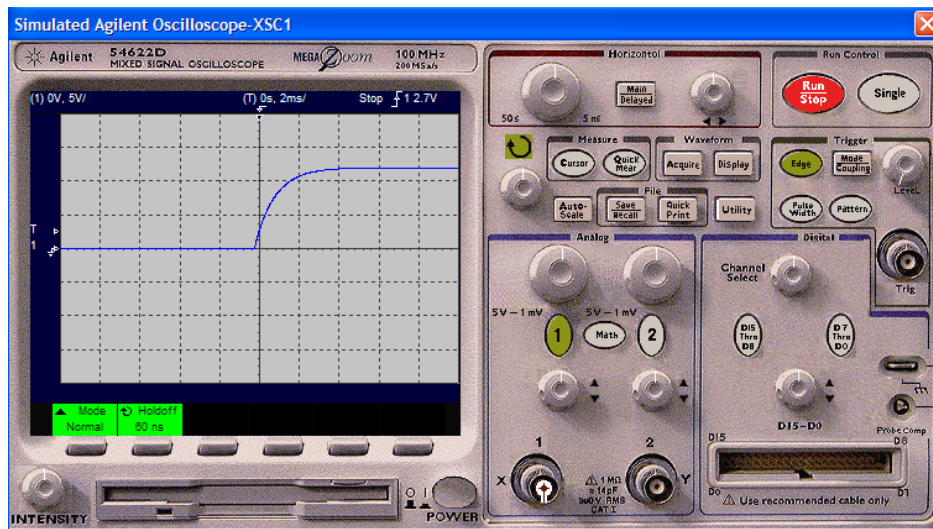

Figure 35. The voltage across the capacitor
3. Press the  button to run the Simulation. Next, press the spacebar to close the switch and trigger the scope. Figure 35 shows the waveform.